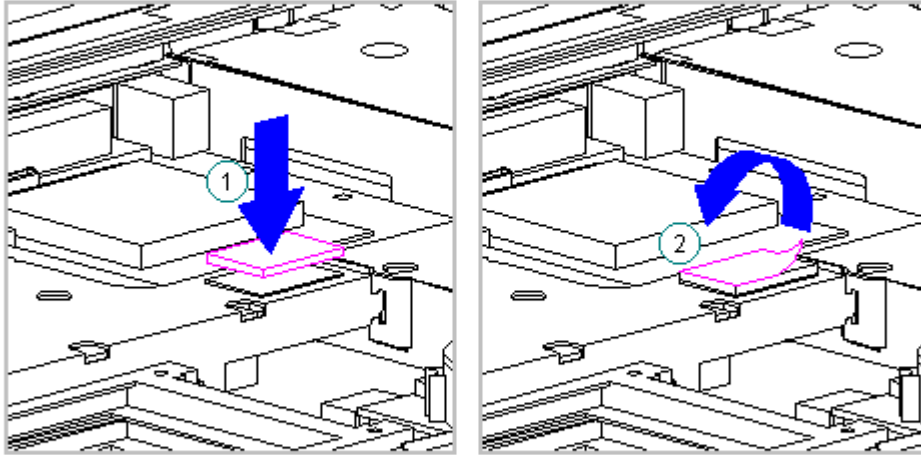

Figure 3-27. Attaching the Hook and Loop Fastener (All Models)
2. Attach the opposite color of the hook and loop fastener to the existing hook and loop fastener on the tab on the diskette drive bracket [1] (Figure 3-27).
3. Remove the top layer from the hook and loop fastener to expose the adhesive strip prior to replacing the keyboard assembly [2] (Figure 3-27).